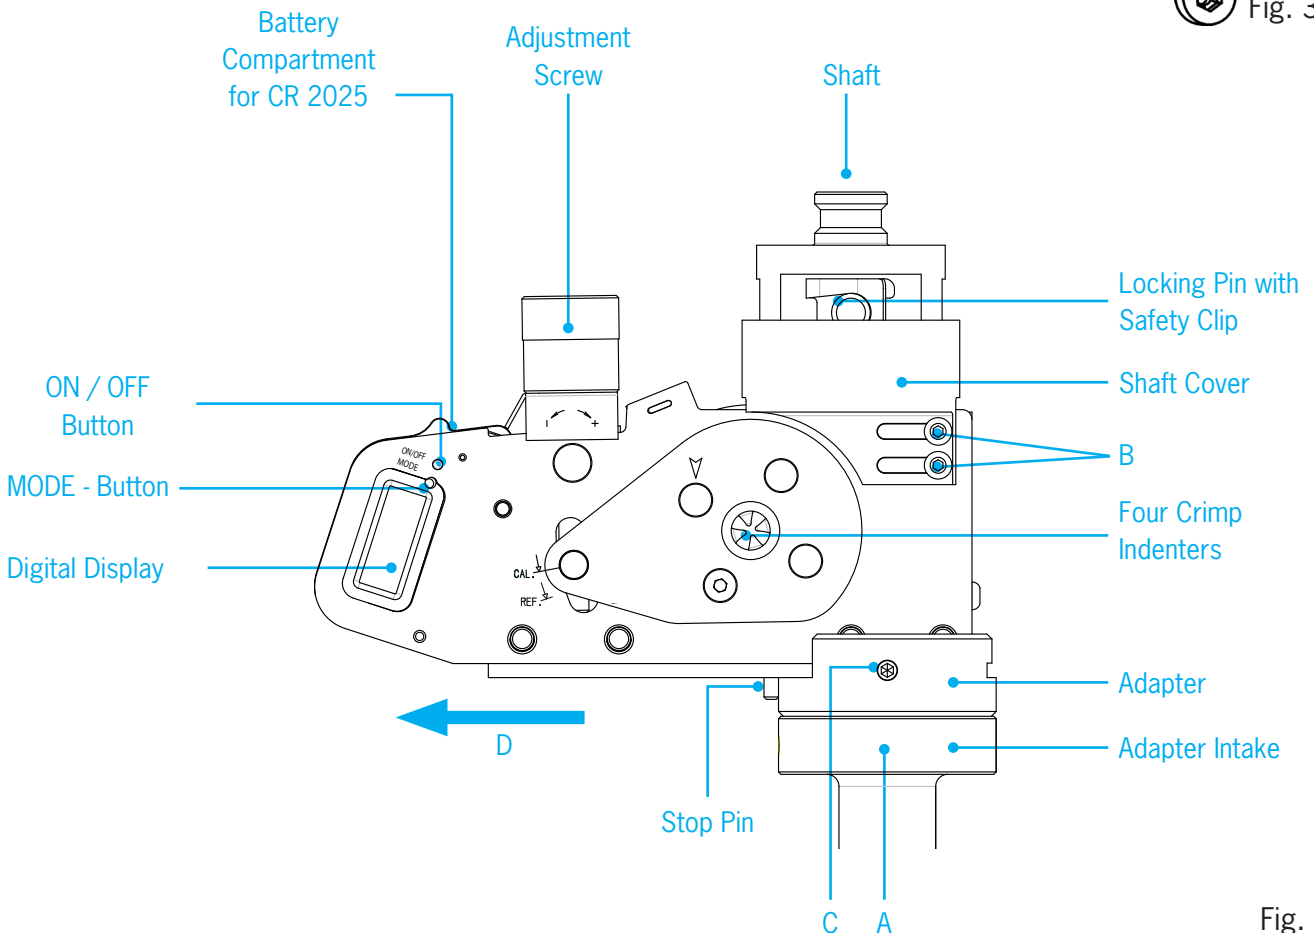

Fig. 4
- Loosen the safety clip and lock pins (Fig. 4) and remove them out of the shaft.
- Place locking pins into shaft (Fig. 4) and push through the crimping unit and secure with safety clips on both sides, an adjustment to the height of the shaft can be regulated by turning the wrench SW 12 on the square counter bearing
Push and fasten the 4/8 indent crimping unit up to the stopping pin (Fig. 4).
- Loosen Adapter intake (Fig. 4/A) with an Allen wrench SW (size of wrench) 2,5 and swivel the 4/8 indent crimping unit by 90° to the front (adjustment screw faces the operator).
- Loosen the shaft cover on both sides with an Allen wrench SW 2,0 (Fig. 4/B) ; the shaft cover must be movable.
- Loosen the clamping screws (Fig. 4/C) of the 4/8 indent crimping unit with an Allen wrench SW 2,5 in the direction of the arrows (Fig. 4/D) and pull out of the adapter intake.